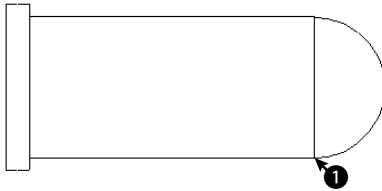

**Figure 4-31:** Using the From feature to complete the steam boiler.
5. The prompt asks you for a base point. Pick the endpoint at ❶ in Figure 4-31.